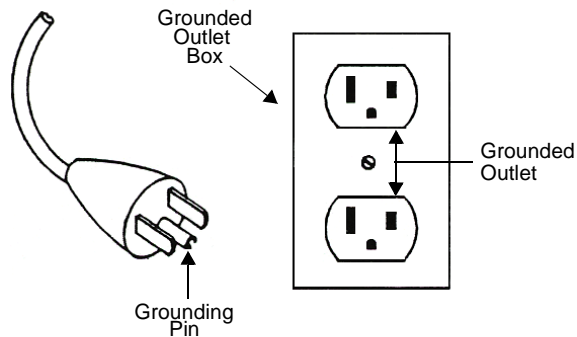

Figure 6 Grounding Plug and Outlet
- ❑ When this product is configured for use on a nominal 120 V circuit, it must be used with a grounding plug that looks like the plug illustrated in Figure 6.